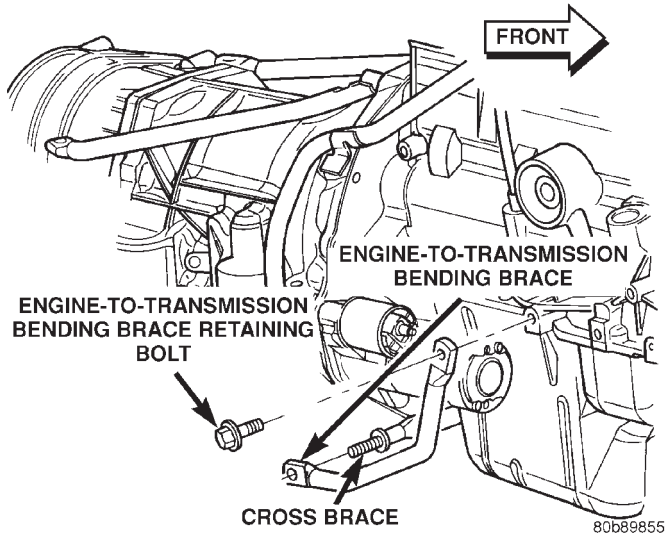

Fig. 27 Engine-to-Transmission Bending Braces
- (4) Tighten engine-to-transmission brace retaining bolt (Fig. 27) to 40 N·m (30 ft. lbs.).